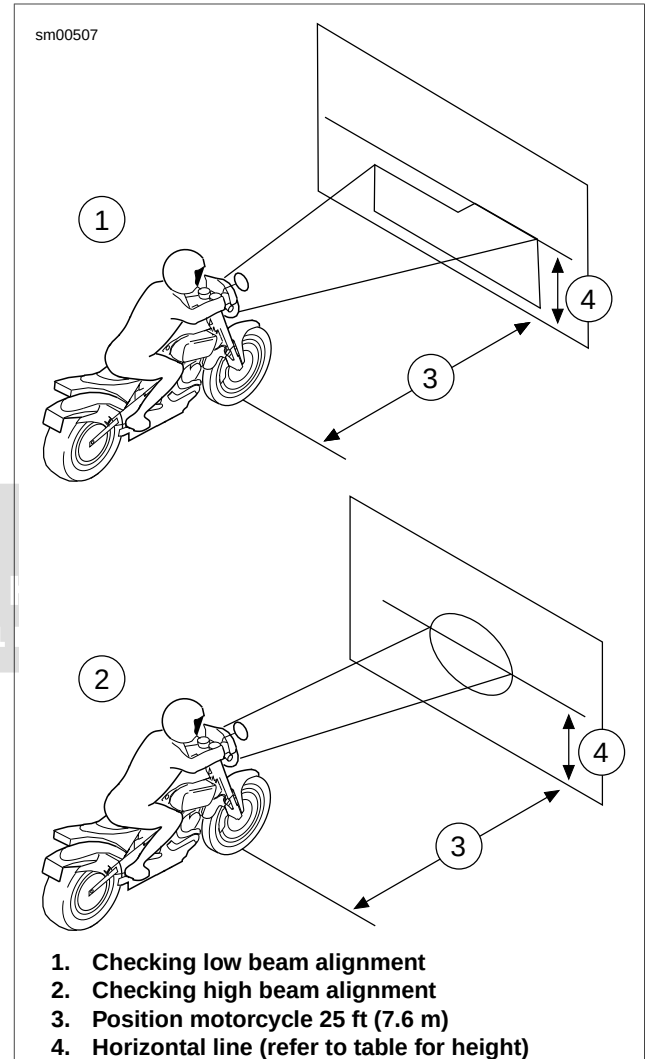

Figure 1-48. Checking Headlamp Alignment
2. See Figure 1-48. Position motorcycle 25 ft (7.6 m) away from a screen or wall by measuring the distance from the front axle to the screen/wall.
- c. Check that the correct pattern of light is a double rectangular pattern and is aligned with the horizontal line as shown in Figure 1-48.
- b. Check that the correct pattern of light is a circular pattern and is centered on the horizontal line as shown in Figure 1-48.